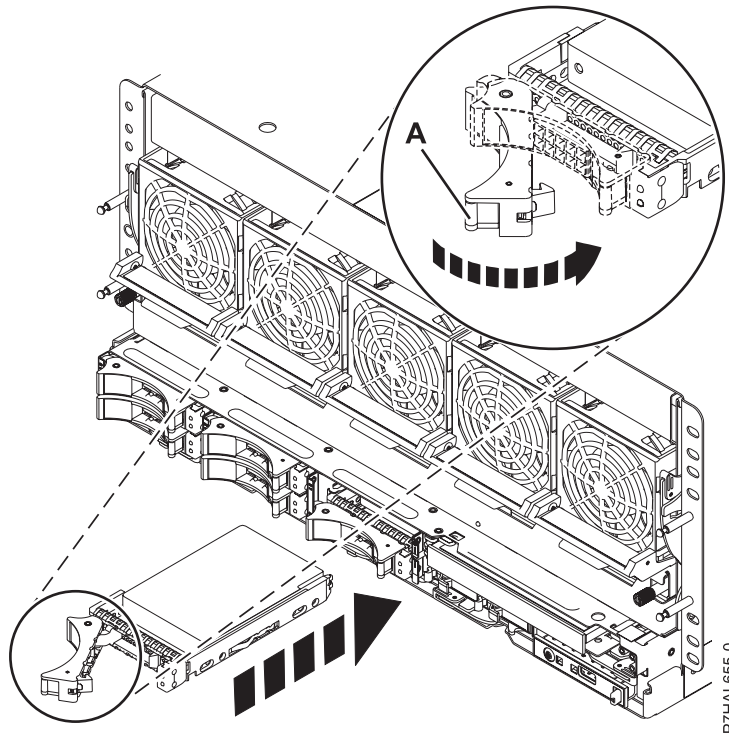

Figure 6. Installing the drive in the system
- When the identify LED flashes, slide the drive all the way into the system or an expansion unit, and push the drive handle (A) in until it locks. See Figure 6 showing installing a drive in the system.